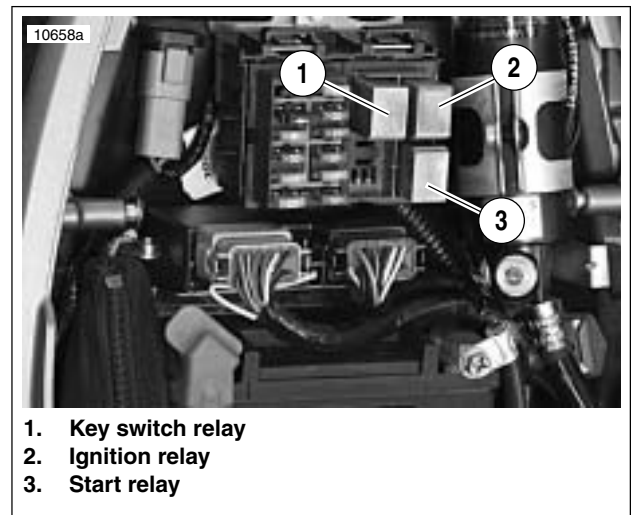

Figure 7-15. Relay Block
1. See Figure 7-15. Locate ignition relay (2) within relay block.
See Figure 7-15. The key switch relay (1) is under the seat. See Ignition Relay under 7.5 STARTER INTERLOCK for testing procedure.